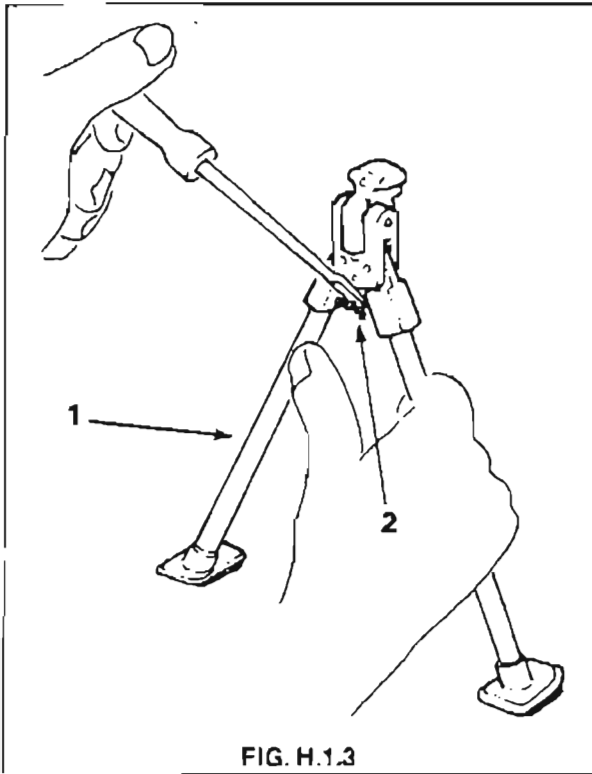

FIG. H.1.3
2. Using a screwdriver or similar implement, remove the spring from between the bipod legs. See Fig. H.1.3.